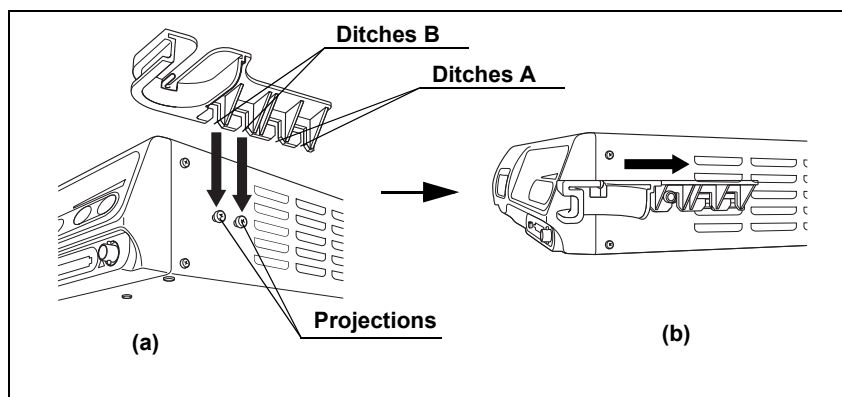

Figure 8.7
1. Fit ditches A or B on the projections on the left side of the instrument (see Figure 8.7).